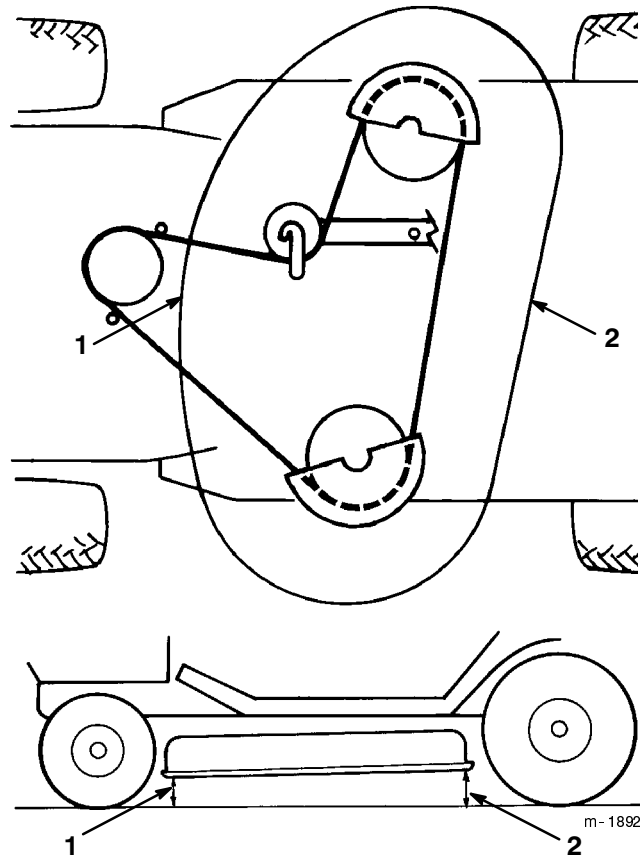

Figure 50
4. Check the front to rear slope by measuring between the bottom of the mower (front center and rear center) and the flat surface (Fig. 50). If the front is not within a range of $1/8''$ – $3/8''$ (3.5mm–10.5mm) lower than the rear, an adjustment is required.
7. After adjusting both eyebolt lock nuts evenly, check the front-to-rear slope again. Continue adjusting eyebolts until the front blade tip is $0-3/8''$ (0-9.2 mm) lower than the rear blade tip (Fig. 50).